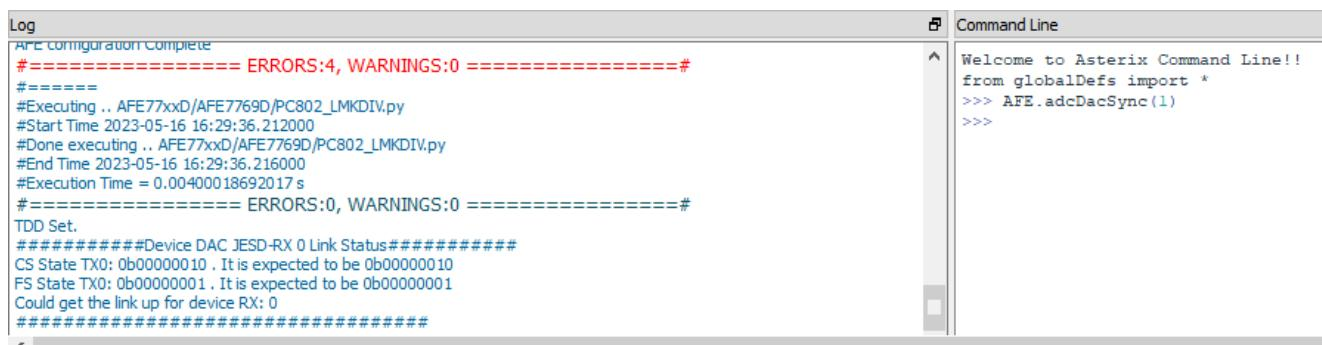

Figure 3-20. JESD Link Bringup
13. Proceed to set up the PC802 by following the PC802 EVB RFIC Demonstration User Guide (Version 3) (where is this doc located or what is the lit number?) from section 2.2. Once you get to section 2.2.5, after you enter the “start” command on the test mode tool to start sending data, type the “AFE.adcDacSync(1)” command in the Command line in the AFE77xxD GUI. You should now be able to see a report in the log window that the JESD link is up with no errors like in Figure 3-20. Data will be going out of the AFE TX channel.